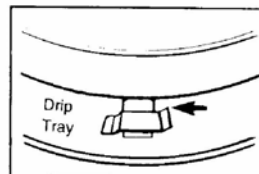

Fig. 9
G) INSTALLING DRIP TRAY. (Fig. 9)
- Place the heater on the drip tray with four legs(4) of the heater located next to four tabs(4) on the drip tray.